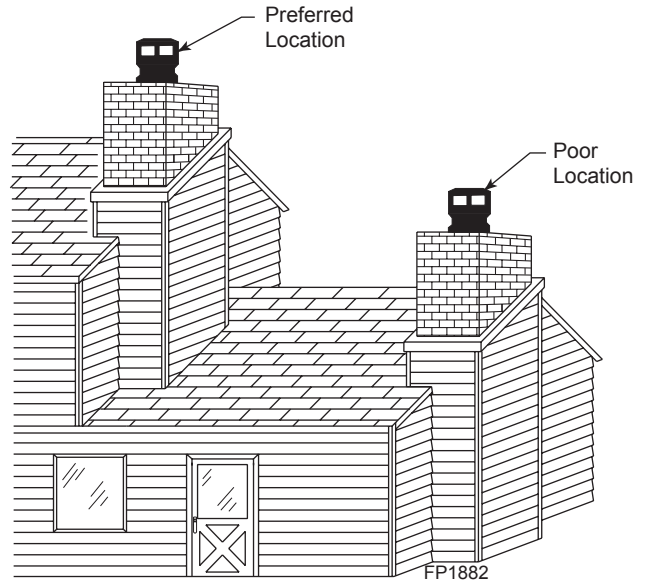

Figure 10
A model WS wall shield or an equivalent must be installed when the closed end of the fireplace is closer than 24" from a wall perpendicular to the face of the fireplace. *Figures 10 and 11*. The WS wall shield should be attached securely to the wall by driving nails or screws through it into the wall studs. The wall shield should be covered by a decorative noncombustible material such as brick, tile, slate, etc.
3. Set the fireplace in the desired location and be sure it is securely supported and leveled. Install metal safety strip for hearth extension as shown by *Figures 10, 11 and 12*. Check the face of the fireplace with a carpenter's level to make sure the fireplace is plumb. If it is not plumb, plumb it by placing shims under the edges of the fireplace.